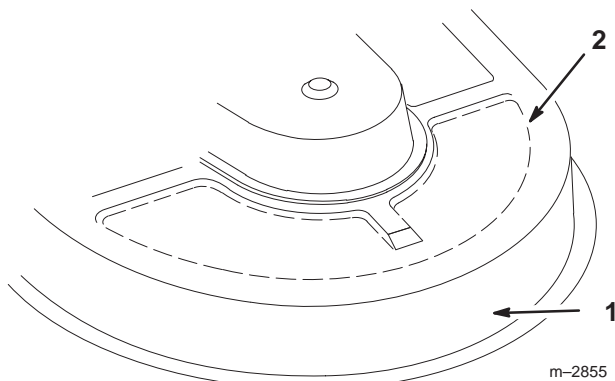

Figure 2
4. Select a location with the hose fitting assembly on left side of mower inside the preferred location diagram (Fig. 2 or 3).